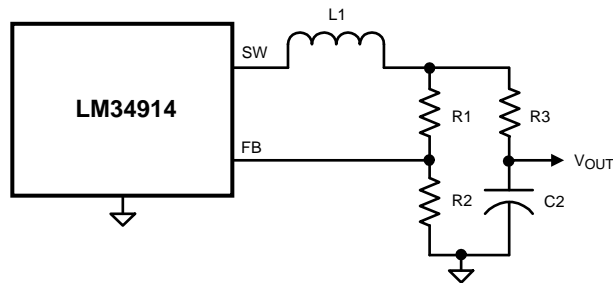

Figure 13. Alternate Minimum Output Ripple
c) **Alternate minimum ripple configuration:** The circuit in Figure 13 is the same as that in the Block Diagram, except the output voltage is taken from the junction of R3 and C2. The ripple at V_{OUT} is determined by the inductor's ripple current and C2's characteristics. However, R3 slightly degrades the load regulation. This circuit may be suitable if the load current is fairly constant.